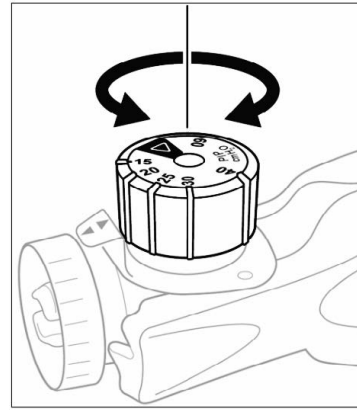

Figure 5: Setting Peak Inspiratory Pressure
2. **Rotate** the PIP dial in either direction until the indicator arrow points to the '40cmH₂O' setting, or desired starting PIP based on patient needs. See Figure 5.